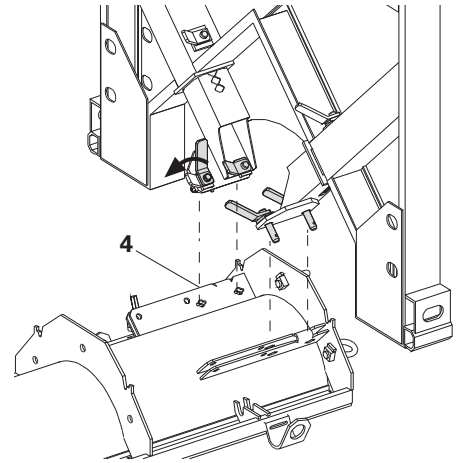

Fig. A2.02
3. Position Platform using 2 men and insert into the drilled holes (4). (Fig. A2.02)